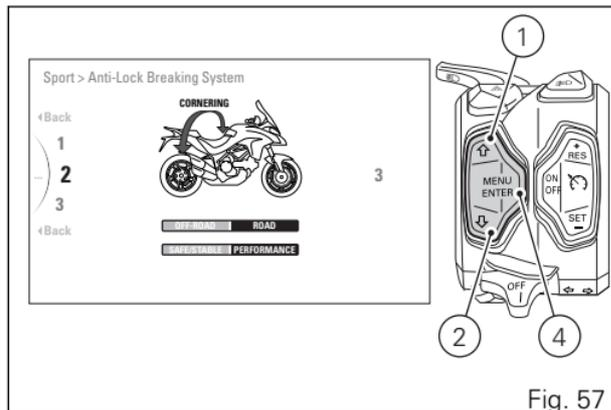

Fig. 57
With buttons (1) and (2) select the new level of intervention desired. For each highlighted level, the corresponding paired value in the central table (highlighted with a black background) will be displayed. Furthermore, the braking system intervention level is indicated in Light Blue: the indication "**!FRONT ONLY**" (Fig. 56) only for the front active brake, the indication "**CORNERING**" (Fig. 57) for the active Cornering function. Once the desired level is highlighted, press button (4) to memorise the new selection. To exit the menu and go back to previous page highlight the "**◀ Back**" indication and press button (4).